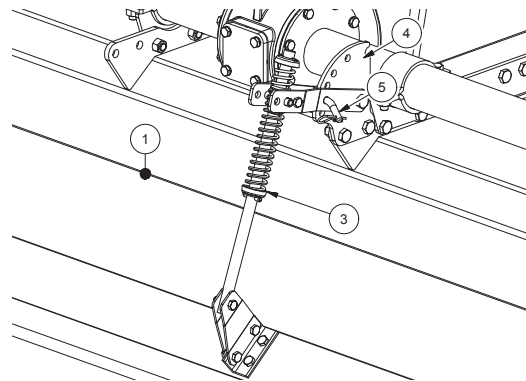

FIG. 23
To level and crumble the soil to a greater degree, the machine has a rear hood (1, "Fig. 23") positioned behind the hoes. It can be adjusted in height by means of a spring (3). It is recommended to start working with the hood in a middle position: after the first working yards, when reaching the chosen depth, secure the position of the hood to the support (4); insert adjustment pin (5).